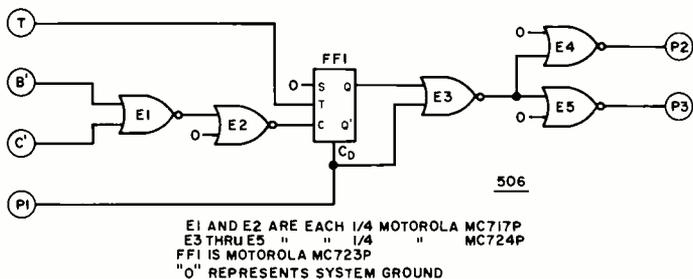

Fig. 10. Logic diagram of the twenty-fourth hour detector and hours reset generator circuit (506) shown in Fig. 2.
The twenty-fourth hour detector and hours-reset generator (506) module (Fig. 10) is made up of a JK FF and five *nor* gates, three of which are connected simply as inverters. If the "Display Reset" switch is momentarily depressed at least once after application of power to the clock circuits, FF1 will be in the "0" state, and P2 and P3 will be "0". The B' and C' inputs to gate E1 (Fig. 10) are both "0" for the first time when the hours display indicates 24. At all other times, either B' or C' is "1" and C of FF1 is "1." Thus, FF1 remains in the "0" state in spite of the clock pulses that occur once each second at T. When the displayed time advances from 23:59:59 to 24:00:00 the level at C of FF1 steps from "1" to "0." When the next clock pulse arrives at T of FF1, it toggles to the "1" state and the levels of P2 and P3 step from "0" to "1," resetting both hours counters; the displayed time is now 00:00:01. At the same time, C of FF1 steps from "0" to "1." One second later FF1 toggles back to the "0" state and P2 and P3 step from "1" to "0," removing the reset signal from the hours counter.